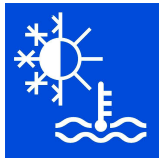

Figure 5
- Failure of the temperature sensor (Fig. 5)